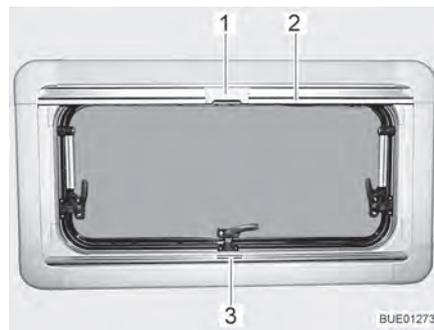
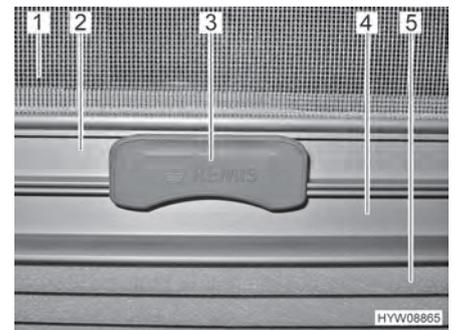

Fig. 21 Hinged window
Fig. 22 Catch
Roman shade The Roman shade (Fig. 22,5) is located in the lower blind box.
- Seize the Roman shade by the centre of the holding bar (Fig. 21,3 and Fig. 22,4), pull it from the bottom to the top and release it at the desired height. The Roman shade will stay at this height.
Insect screen The insect screen (Fig. 22,1) is located in the upper blind box.
- Pull the insect screen down by the holding bar (Fig. 21,2 and Fig. 22,2), until it touches the holding bar of the Roman shade (Fig. 22,4).
- Clip the catch (Fig. 21,1 and Fig. 22,3) on the insect screen into the holding bar of the Roman shade. When the catch is locked, the Roman shade and the insect screen can be adjusted together.
- Push the catch (Fig. 22,3) on the insect screen upward.
- Move the insect screen back slowly on the holding bar (Fig. 21,2).